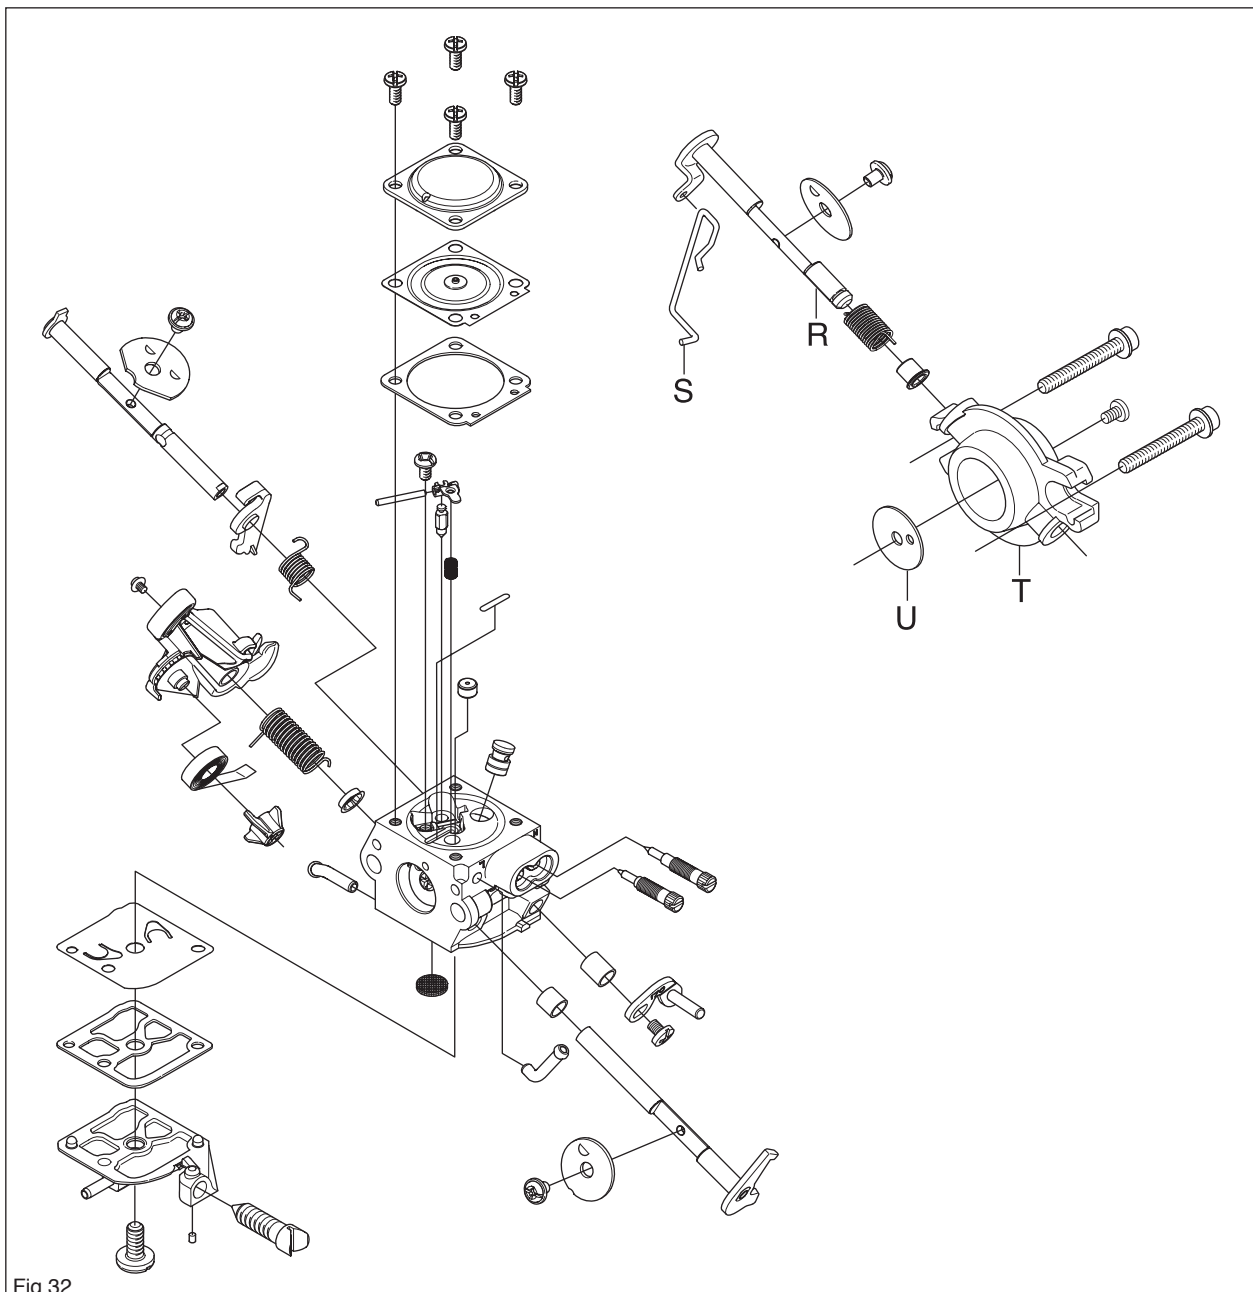

Fig 32
8. Fit the throttle valve (U) on the shaft (R). Fit lever (S) on the shaft (R) parallel with the ordinary throttle valve. The valve housing (T) is secured in the air flange using two screws. (see figure 32)